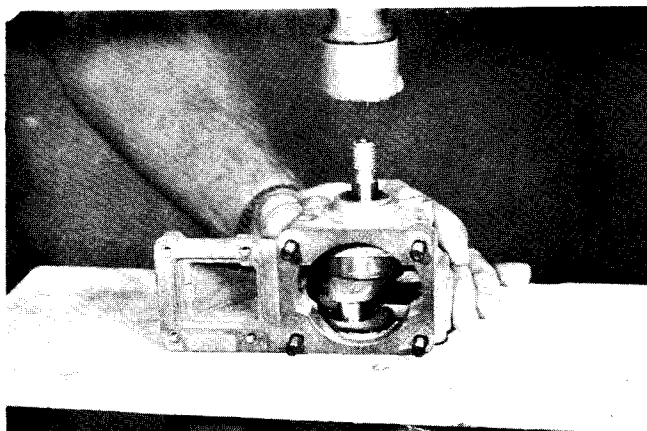

Fig. 38 — Removing Crankshaft and Bearing
16. Bump end of crankshaft and remove shaft and bearing from crankcase, Fig. 38.
NOTE: A board with 1" hole on open jaws of a vise makes a convenient holder, Fig. 38.